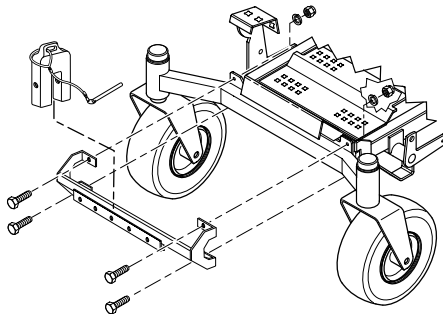

FIGURE 3-7
15. Using the weight support bar (p/n 451517) as a guide, identify the four corresponding mounting holes, and the existing hardware that will need to be removed in order to secure the weight support bar to the front of the machine as shown. See Figure 3-7.
16. Install one 7/16-14 x 1-3/4" hex head bolt into each of the four mounting holes in the weight support bar, and through the matching holes in the caster support weldment. Secure this assembly to the front of the machine using the 7/16 - 1/2" x 1-1/4" x .083" flatwashers and the 7/16-14 elastic stop nuts. Torque hardware to 59 ft. lbs. See Figure 3-7.